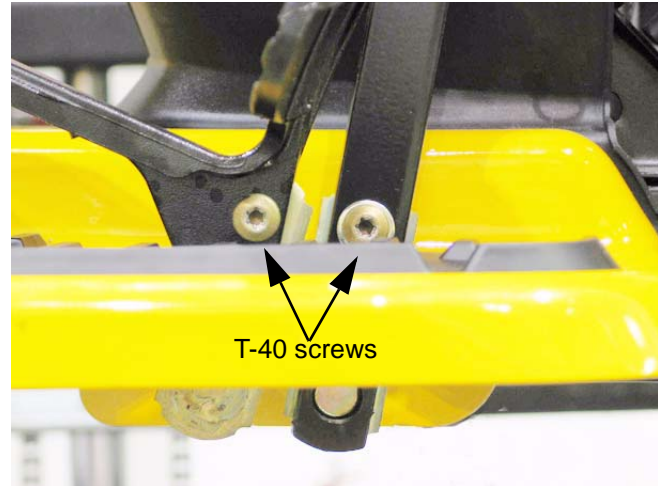

Figure 31.15
31.15. Set the parking brake and remove the drive pedal using a T-40 driver. See Figure 31.15.